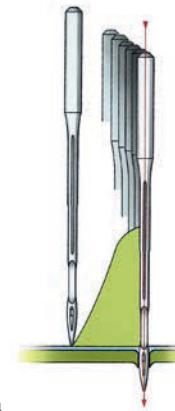

Fig. 4
2. The special shape of the button sewing needles reduces the penetration resistance by up to 43%. This places less strain on the needle and ensures gentle treatment of the material and the machine (Fig. 4 and 5).